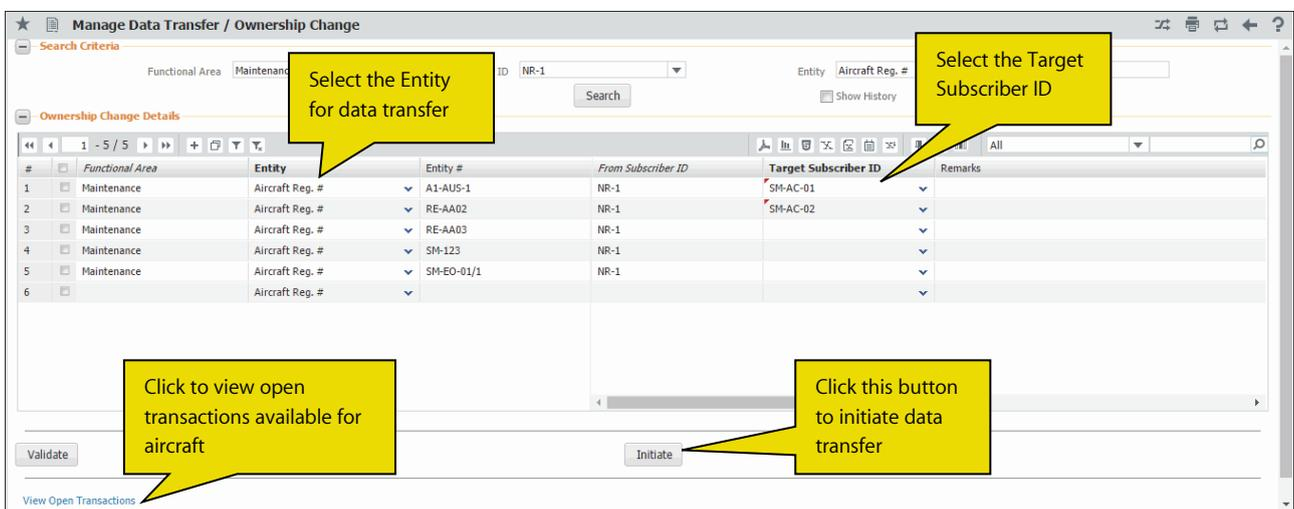

Figure 4.8 Managing data transfer
1. Select the Manage Data Transfer / Ownership Change activity under the Data Replication Review business component. The **Manage Data Transfer / Ownership Change** page appears. See *Figure 4.8*.